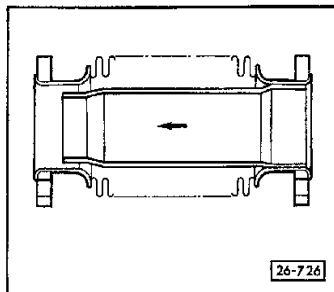

Fig. 2 Installation position of corrugated tube
- Fitting location ⇒ page 26-6 Fig. 2
- Pressing out \Rightarrow Fig. 2
◀ Fig. 2 Pressing out wheel bearing